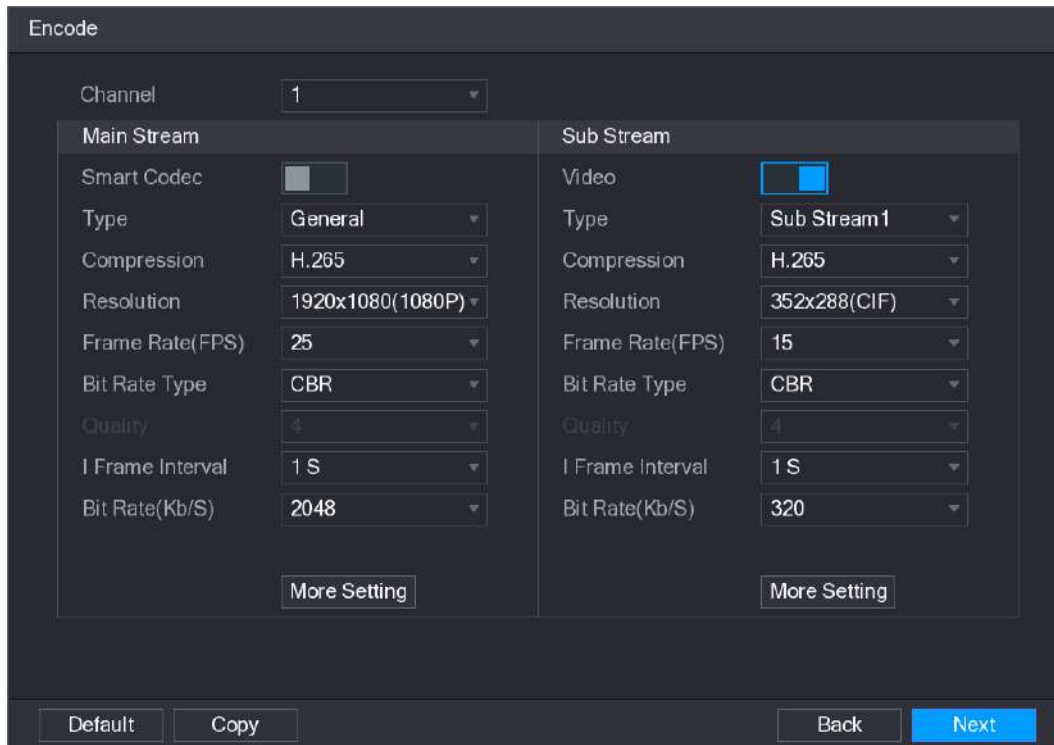

Figure 5-24
**Step 1** After you have configured the P2P settings, on the **P2P** interface, click **Next**. The **Encode** interface is displayed. See Figure 5-24.